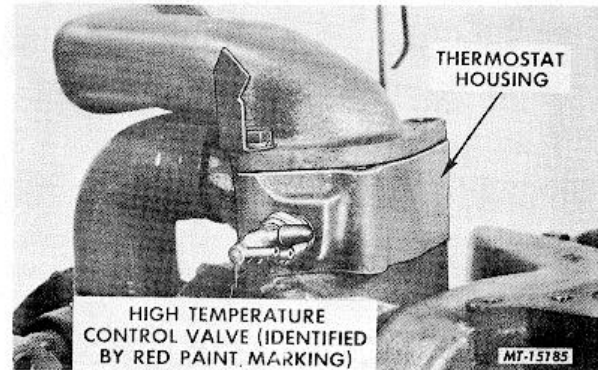

Fig. 17 Removing High Temperature Vacuum Control Valve from Thermostat Housing
21. Remove high temperature vacuum control valve from thermostat housing, Fig. 17.